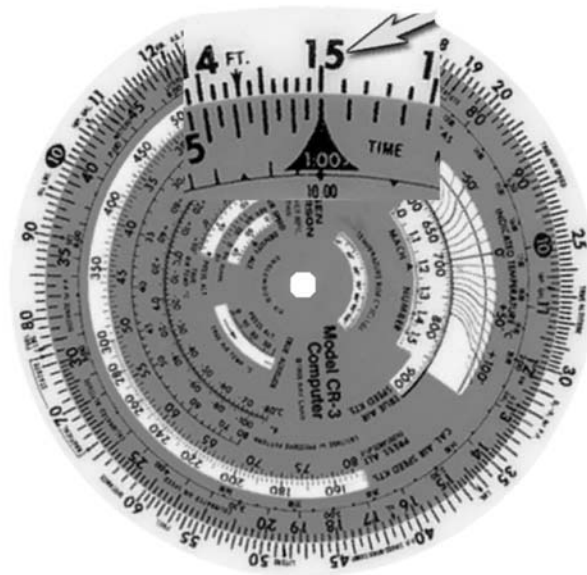

Figure 4.3-16 Time 1
2. Set the ground speed of 150 knots over the RATE INDEX (60 minutes) on the TIME scale. (Figure 4.3-16)